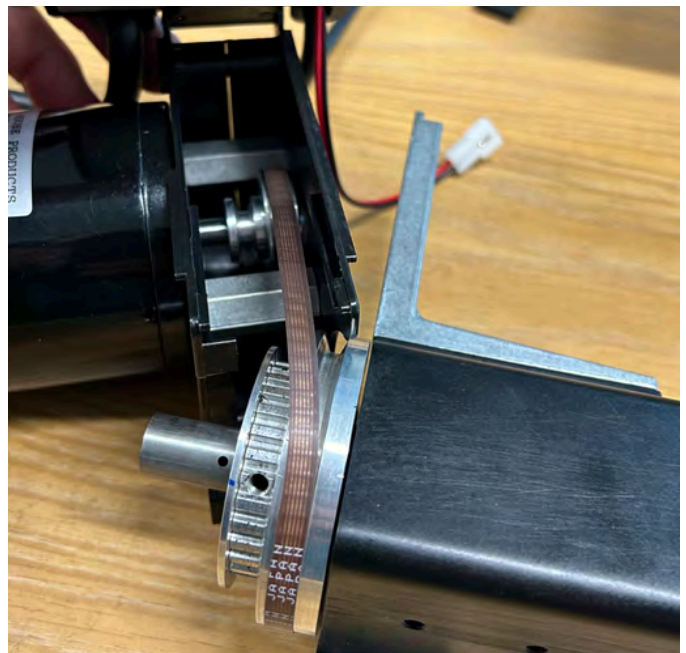

FIGURE 12
2. Tilt the motor assembly off at an angle so you can work the drive belt onto the cog pulley groove. Then turn the spindle pulley until the belt is properly seated in the cog pulley groove (see Figure 12).